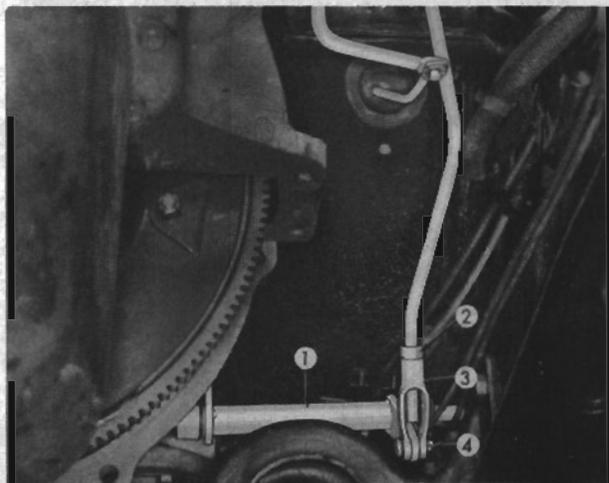

FIG. 265
Disconnect the clevis (3, Fig. 265) of the control rod from the bell crank (1).